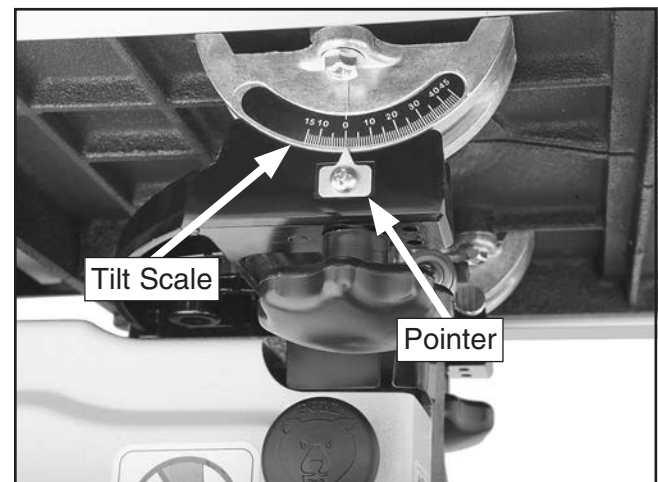

Figure 36. Location of the table tilt scale.
8. Observe the position of the table tilt pointer on the tilt scale located underneath the front of the table (see **Figure 36**).